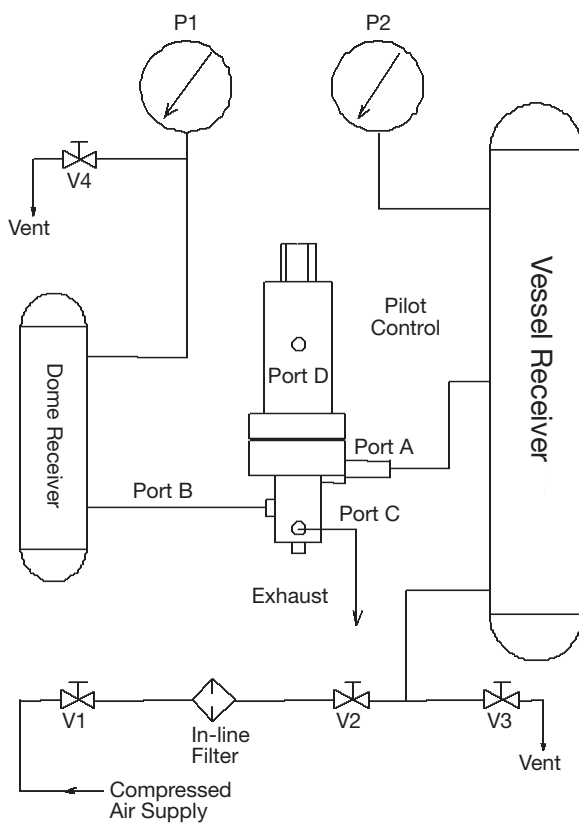

Figure 7.5 Test Stand Schematic
1. Lay out the parts in sequence as shown in Figure 7.5, on a clean and well-lit work area.
Connect the modulating control to the test rig (See Test Stand Schematic, Figure 7.5).
1. Mount the pilot control in the test stand following the port connections shown on the test stand schematic (Figure 7.5).